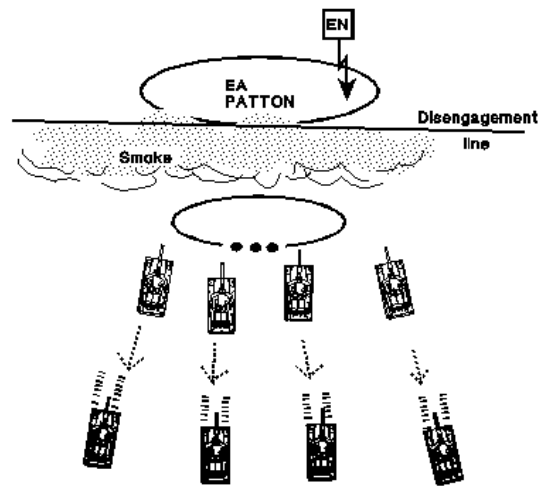

Figure D-6. Using screening smoke to conceal displacement.
- o **conducts a bypass, breach, or assault mission.** Figures D-6 through D-8, pages D-26 and D-27, illustrate uses of screening smoke.